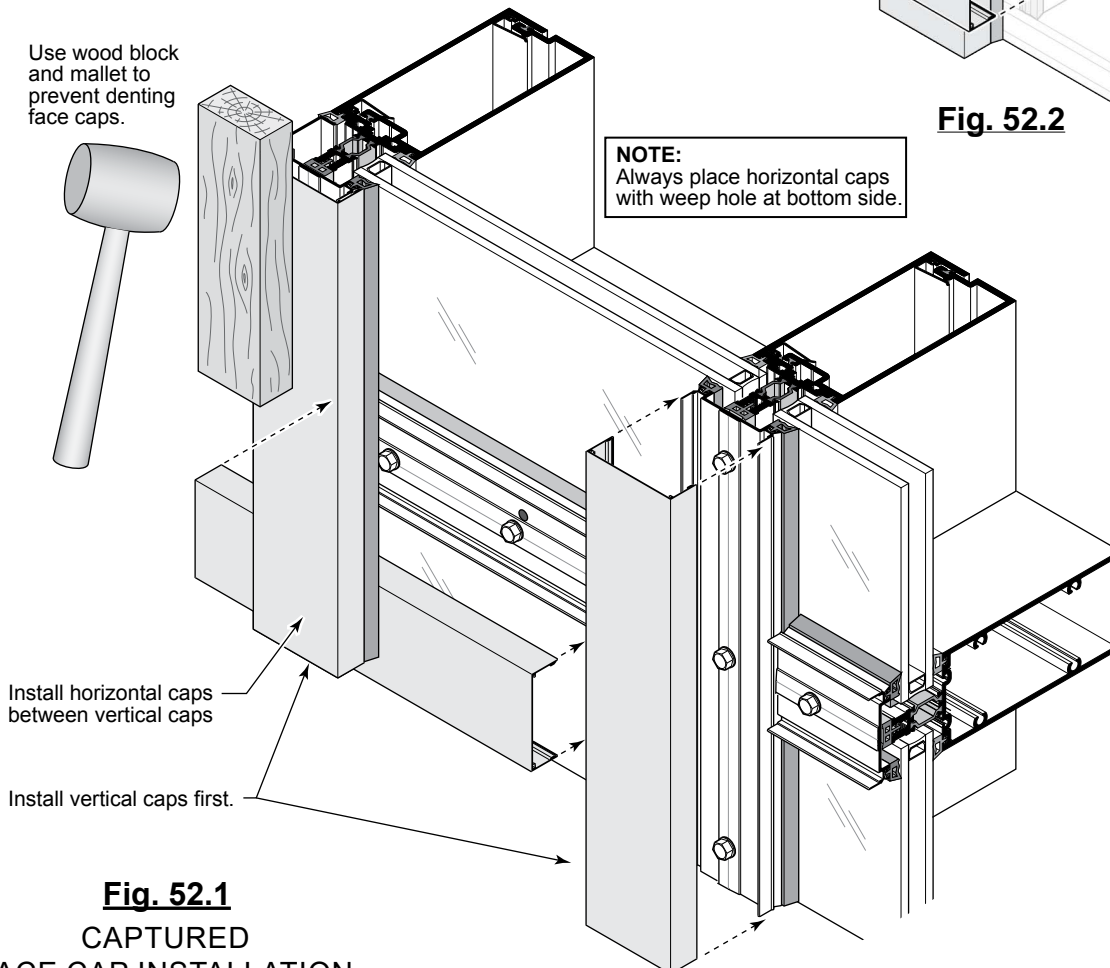
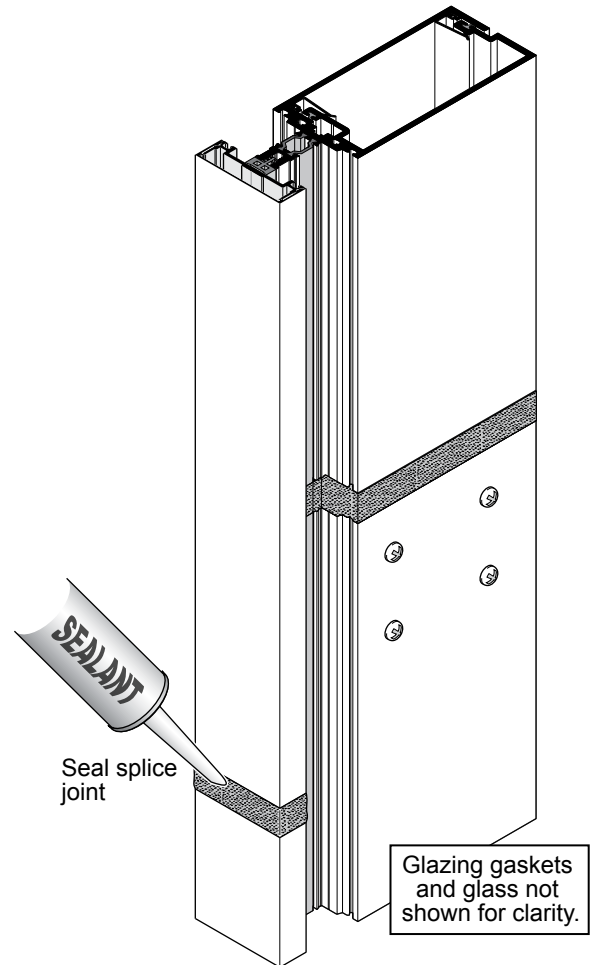

Fig. 52.1
Fig. 55.2
J. Install the vertical face covers using a wood block to protect the face cover. Seal the tops of the vertical face covers below an expansion horizontal using backer rod. Slope the sealant away from the glass, creating a watershed. See **Fig. 52.1** and **Fig 55.2**.